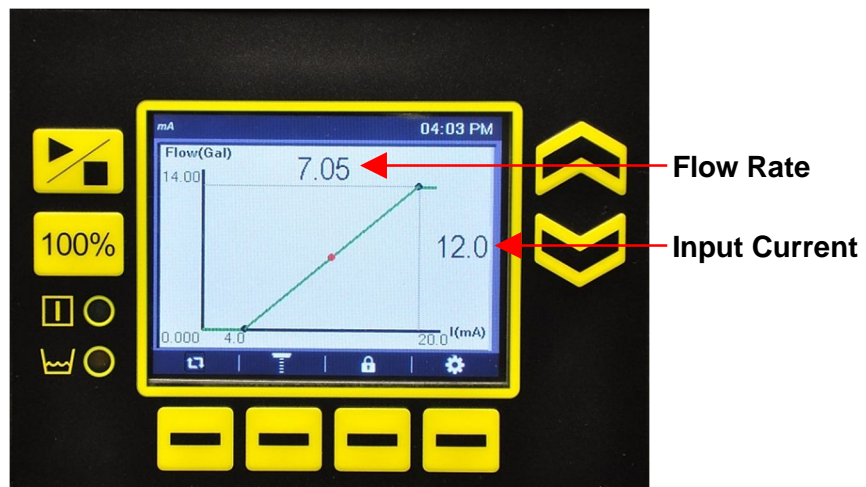

Figure 1: Analog Mode Home Screen
- Figure 1: Analog Mode Home Screen 6
Analog mode allows control of the pump using an external 0 - 20 mA signal. The analog mode home screen is shown in Figure 1.